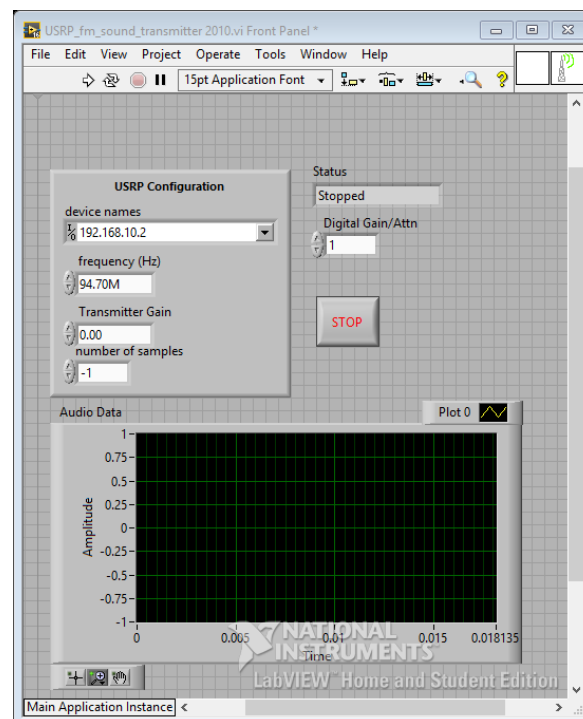

Figure 8: TX Front Panel
2. Go to File > Open and select the “USRP_fm_sound_transmitter 2010.vi”. Figure 8 shows the TX Front Panel.